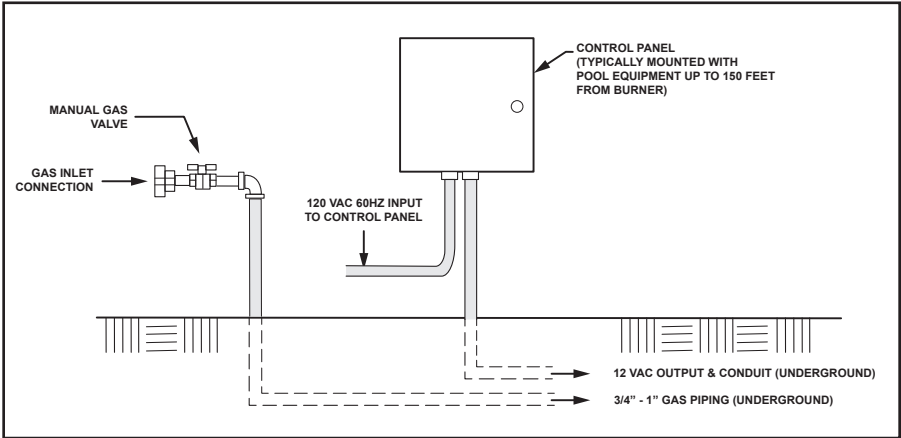
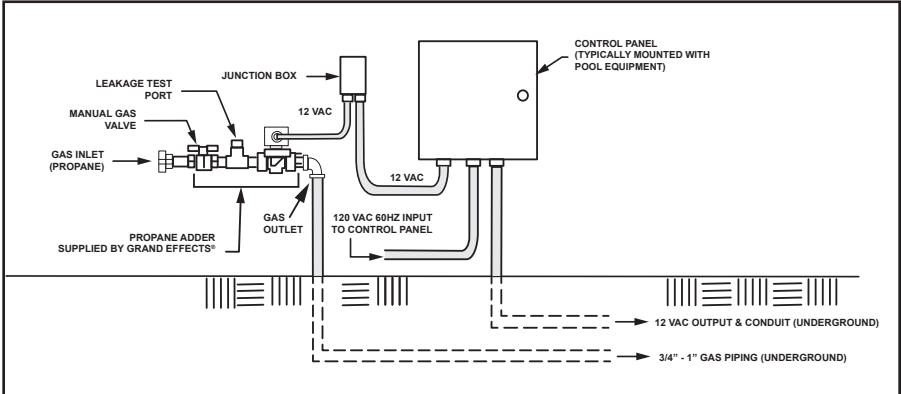
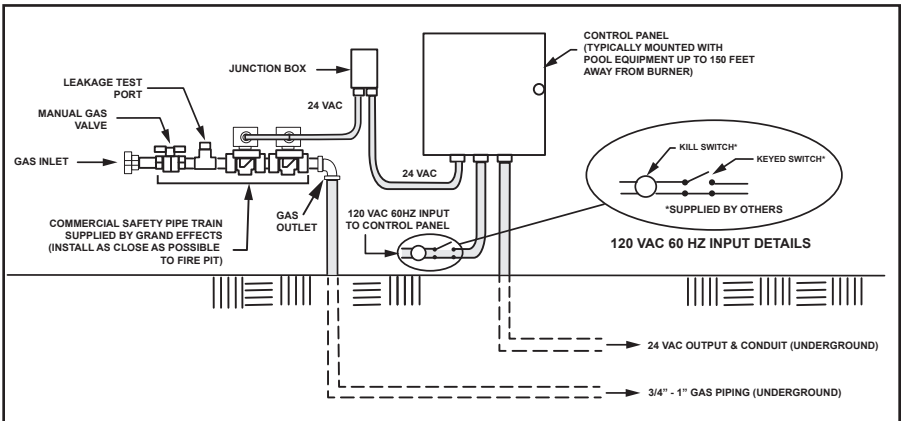

Figure 2. Natural Gas
Figure 3. Propane Gas
Figure 4. Commercial Installation
1. Install the control panel and gas piping as shown in Figure 2: Natural Gas, Figure 3: Propane Gas, or Figure 4: Commercial Installation. Gas lines must be clean and free from any dirt, debris, or contamination.
Note: Propane piping is different than natural gas piping (shown in Figure 2 and Figure 3).
2. The gas piping must be installed underground between the control panel and each burner, as shown in Figure 2.
1. The height of the flame can be adjusted at each burner by opening or closing the ½" gas valve or keyed valve as shown in Figure 4.